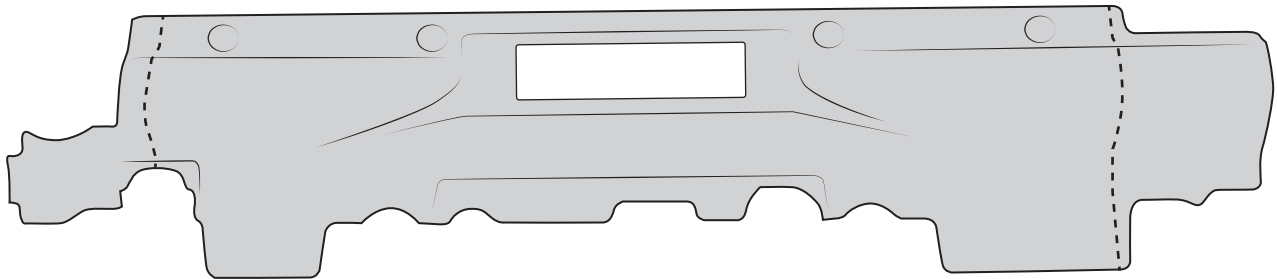

Figure 36
11. Trim and install the upper radiator shroud. Also remove the factory decal on the upper shroud and install the supplied AEV decal (fig 36).